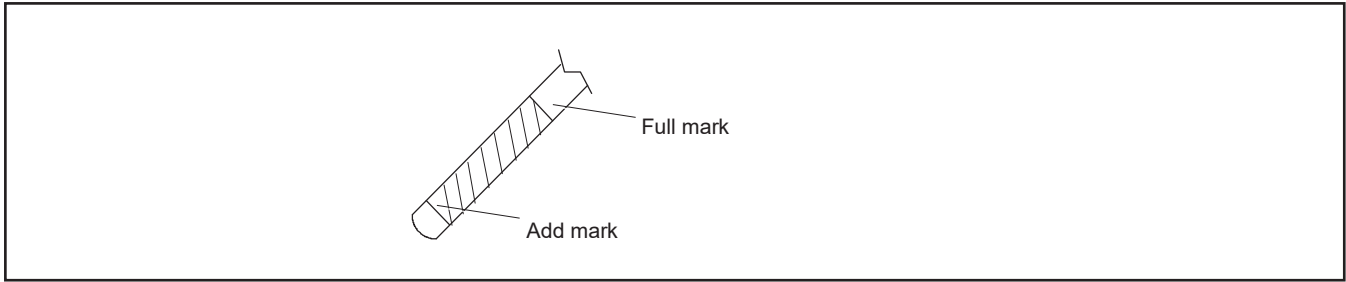

Figure 25 Oil Dipstick
10. Check engine oil level, making sure that the level lies between the Full and Add marks on the dipstick. See Figure 25.